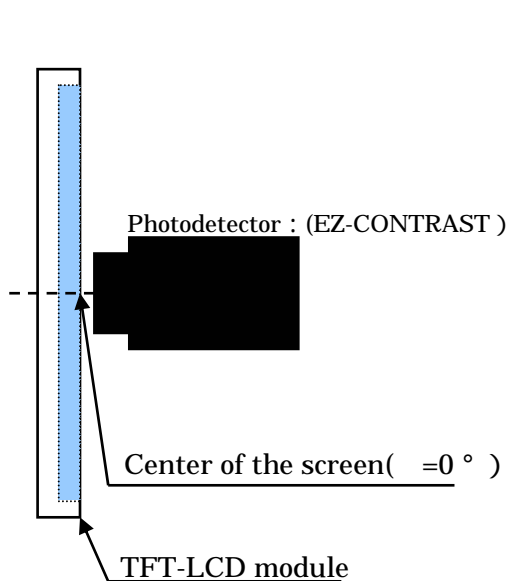

Fig.9-1 Viewing angle range/Response time measurement method
* The optical characteristics measurements are operated under a stable luminescence (I_{LED} = 20mA) and a dark condition. (Refer to Fig.9-1, 9-2)